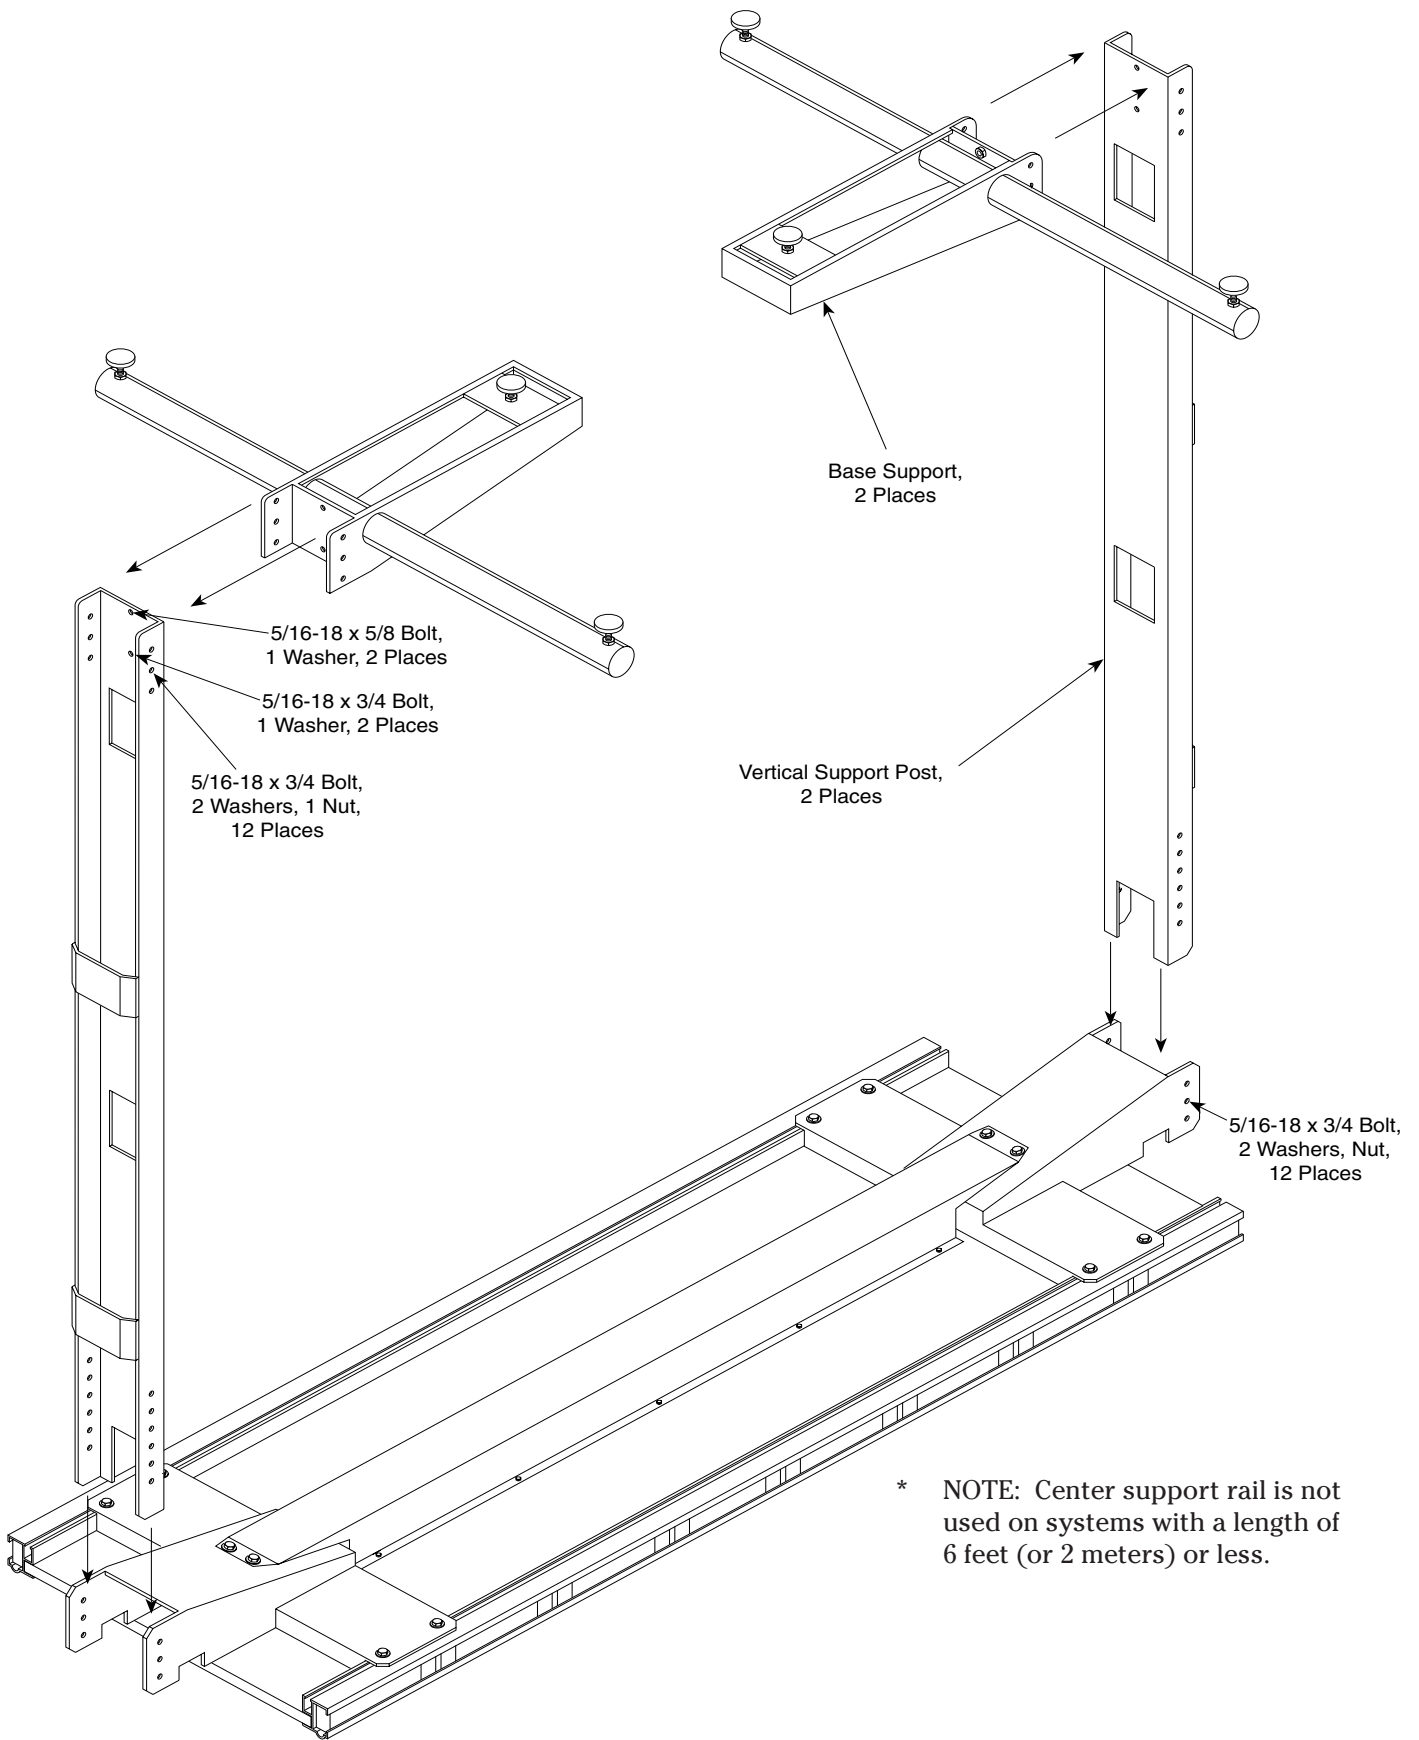

Figure 2.3 — Assembling Vertical and Base Supports
- F. Figure 2.3 details assembly of the vertical and base supports to the shelf and brackets. To complete the assembly, proceed as follows: